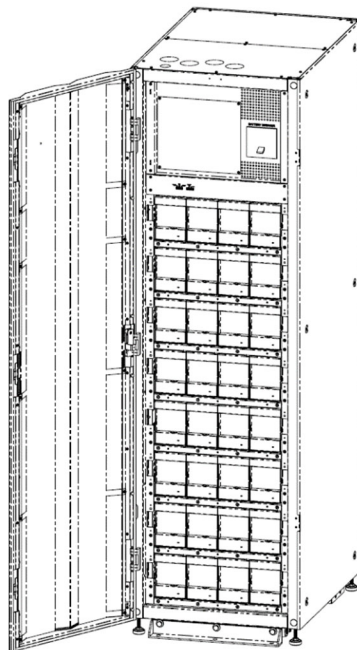
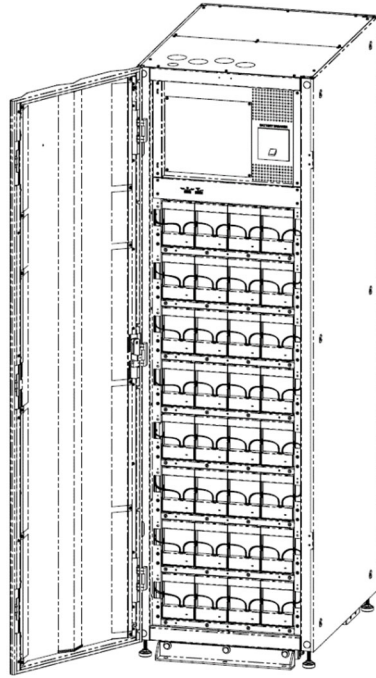

Figure 18: internal view after inserting all battery modules (without cables)
Figure 19: internal view after insert all battery modules (with cables)
- (6) There are eight layers. Four battery modules should be installed in a layer at the same time. See **Figure 18 ~ Figure 19**.